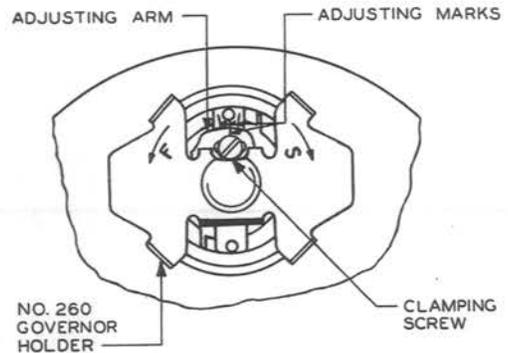

Fig. 16 - Illustrating the Position of the No. 260 Governor Holder
3.16 2-, 4-, and 5-type Dials: To replace the governor clamping screw, place the No. 260 governor holder on the governor as shown in Fig. 16. Remove the clamping screw with the KS-6854 screwdriver and substitute the new clamping screw. Tighten it and remove the governor holder.